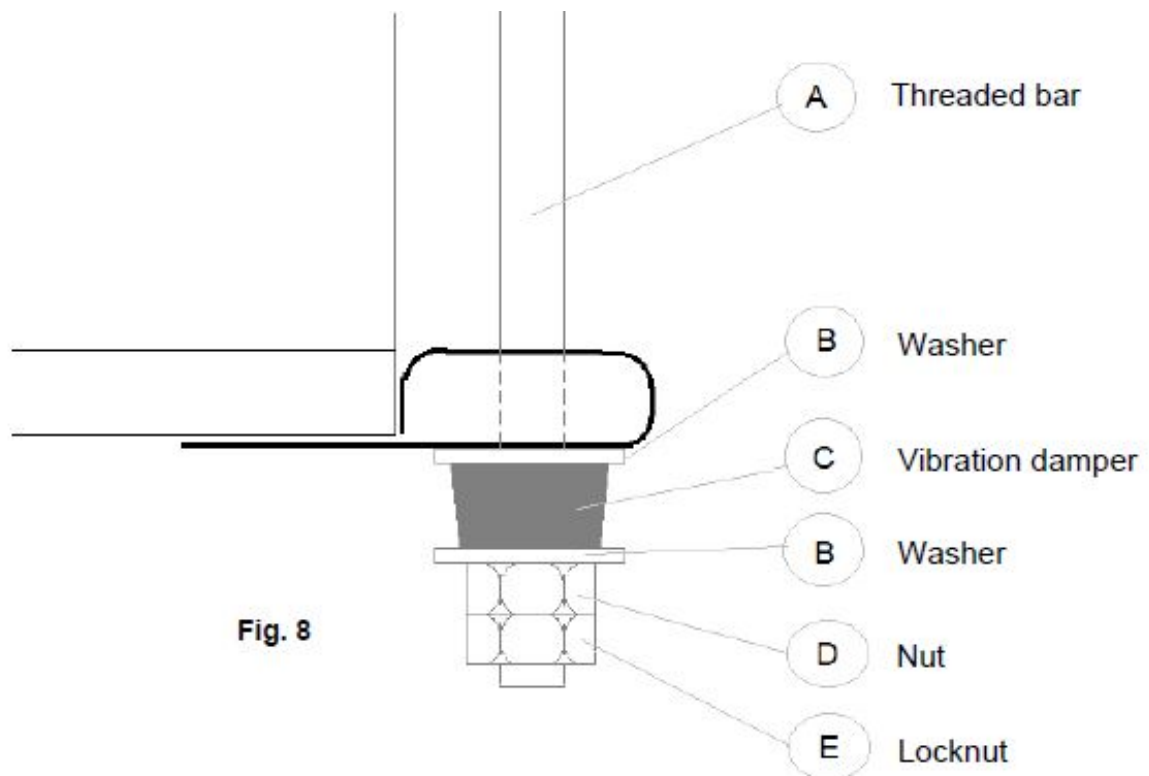

Fig. 8
- For the horizontal version unit, use M8 threaded bars (or similar) crossing each supporting point of the unit bracket; always interpose vibration dampers between unit bracket and bars (fig. 8).
- For the horizontal version section, use M8 threaded bars (or similar) crossing each supporting point of the section bracket; always interpose vibration dampers between the section bracket and bars (fig. 8).